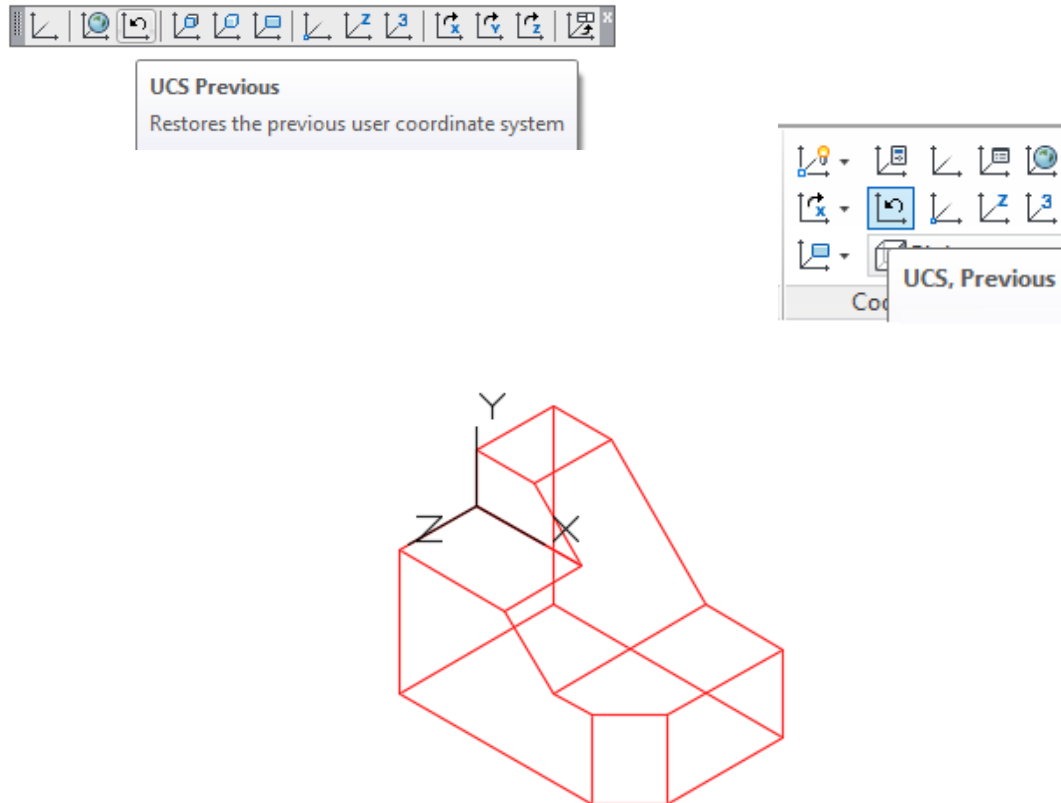

Figure Step 14
Step 14 Click the UCS Previous icon and the UCS should now return back to last location. (Figure Step 14)